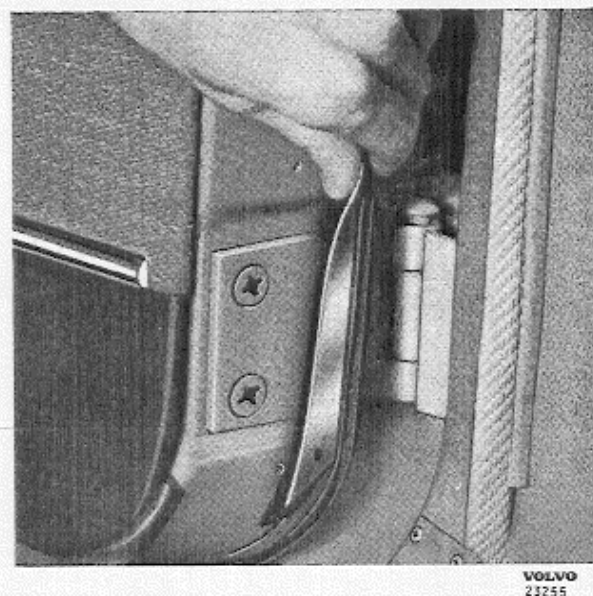

Fig. 7. Plate over hinge.
2. Unscrew the four countersunk screws which hold the doors to the upper and lower hinge. The door sealing strip must be moved in order to get at the hinge screws. This is done by releasing the two plates over the hinges to which the strip is glued, and carefully pulling to one side, see Fig. 7. When doing this, make sure that the rubber strip does not come away from the plate or door. Fitting the door is done in the reverse order